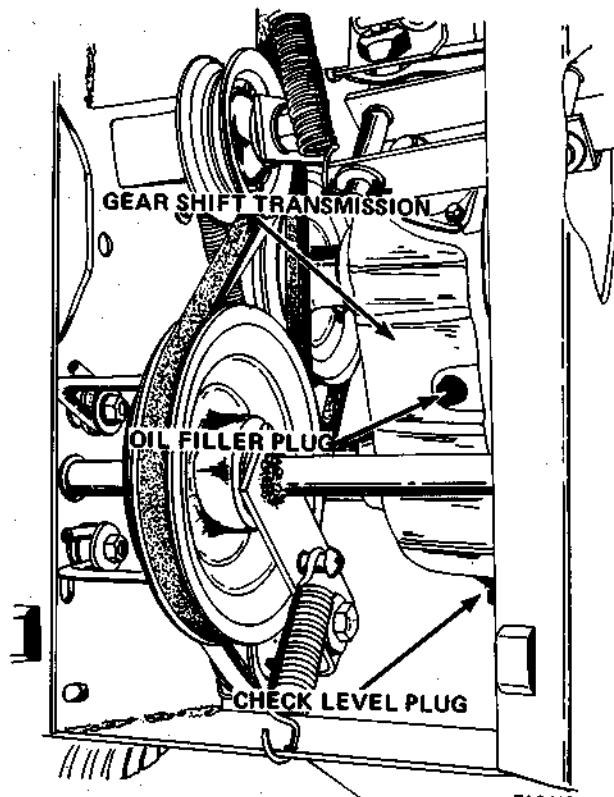

FIGURE 4
Fill the engine crankcase (Figure 4). Use Ariens Gard-N-Yard MS 10W-30 oil when using lawn and garden attachments, use Ariens Sno-Thru oil (SAE 5W-20 MS classification) when using snow removal attachments.
3. Remove check plug, Figure 4. Oil should seep out of the check plug hole. If the level is too low, remove the filler plug and add Ariens MP-90 Premium Gear Lube (SAE 90-EP) weight transmission oil until the level is correct.